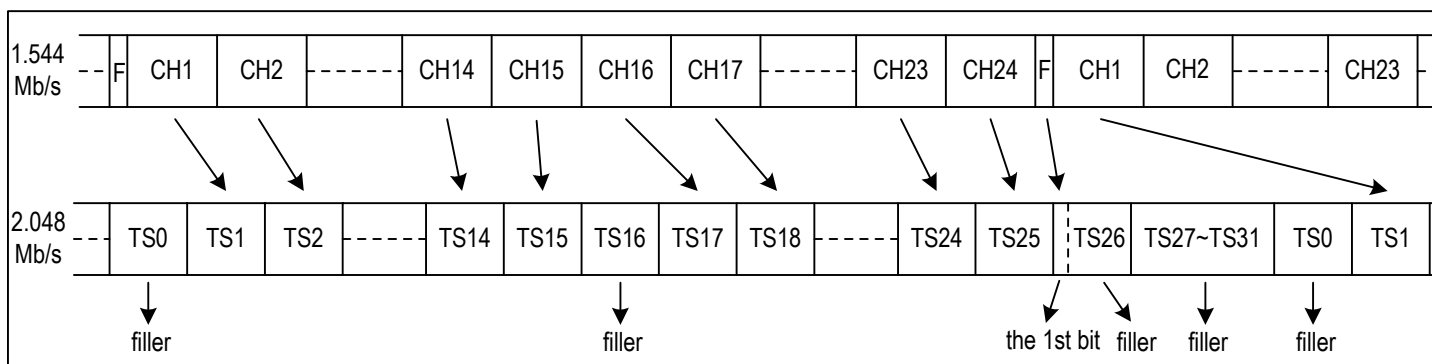

Figure 17. T1/J1 To E1 Format Mapping - G.802 Mode
1. T1/J1 Mode E1 Rate per G.802 (refer to Figure 17): Channel 1 to Channel 15 of Frame N from the device are converted into TS1 to TS15 of Frame N on the system side; Channel 16 to Channel 24 of Frame N